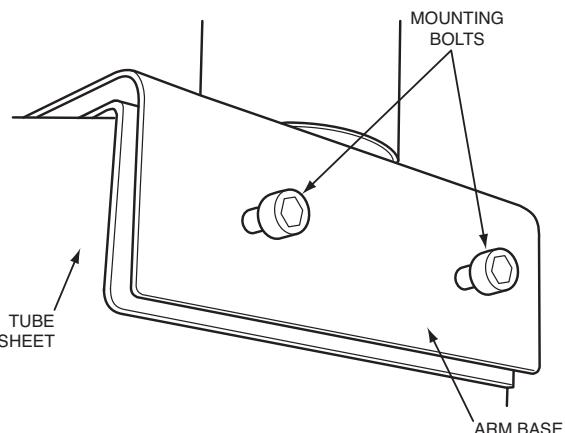

Fig. 1 — Attach Arm to Tube Sheet
3. Align the arm mounting bracket to the tube sheet and tighten hex bolts using a $\frac{3}{16}$ hex screwdriver. See Fig. 1.